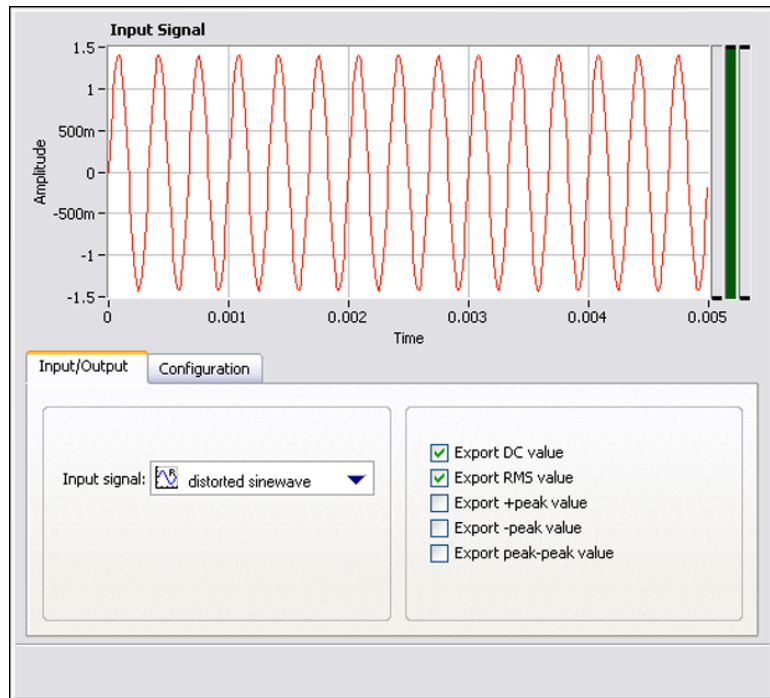

Figure 3-4. Amplitude and Levels Step Setup Dialog Box
6. Click the **Input/Output** tab to display the list of possible inputs and outputs for this step, as shown in Figure 3-4.